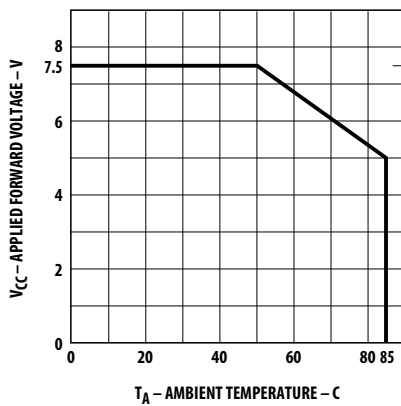

Figure 3. Maximum allowed applied forward voltage vs. ambient temperature $R\theta_{JA} = 175^\circ\text{C/W}$. 5 volt devices.
2. Derate from T_A = 50°C at 0.071 V/°C, see Figure 3.